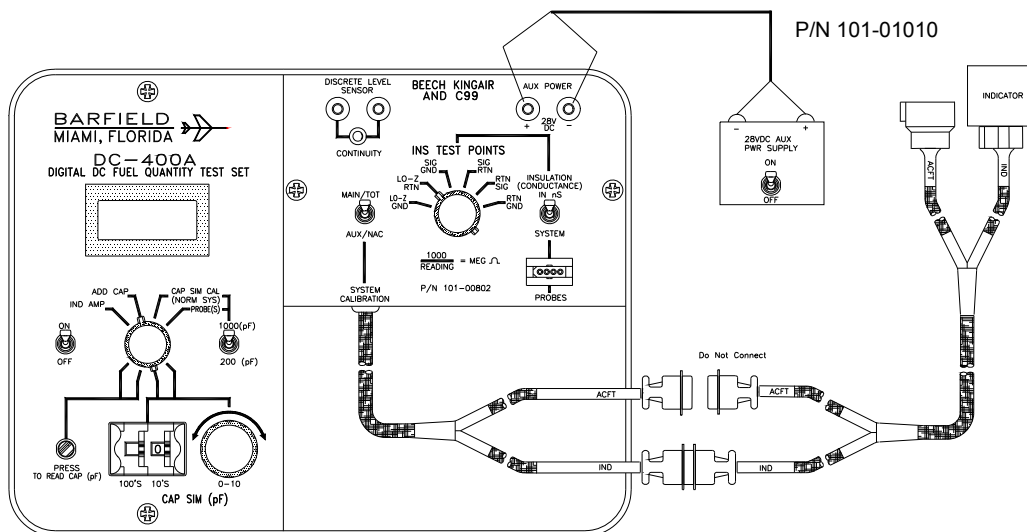
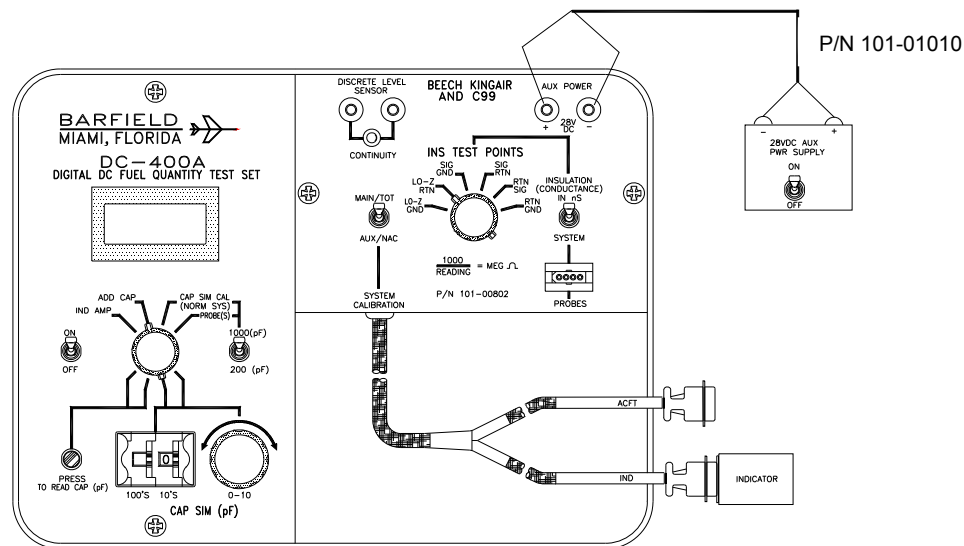

Figure 9 Indicator Bench Test Connection (With 101-00831 Adapter)
Figure 10 Indicator Bench Test Connection
- (1) Connect the test set as shown in either Figure 9 or Figure 10. Figure 9 depicts using Adapter Cable 101-00831 for conversion to systems with circular style connectors.
- (2) Connect the 28 VDC power supply to the test set AUX POWER jacks using Banana to Banana leads P/N 101-01010. Observe polarity.